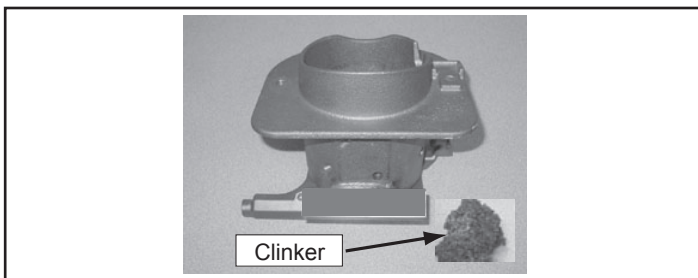

Figure 22.1 - Fire pot with large clinker
- It may be necessary to use your fire pot clean-out tool to chip away material that has built up on the sides of the fire pot and to push out any clinkers (**Figure 22.1**).